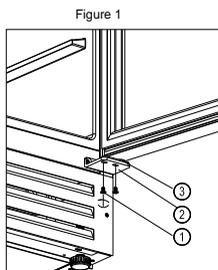

Figure 1
1. Open the glass door and remove the two screws under the right bottom corner of the glass door that are used to hold the right lower hinge to the door shaft assembly. Be careful to support the glass door with hands to prevent it dropping after removing the screws. (Figure 1)